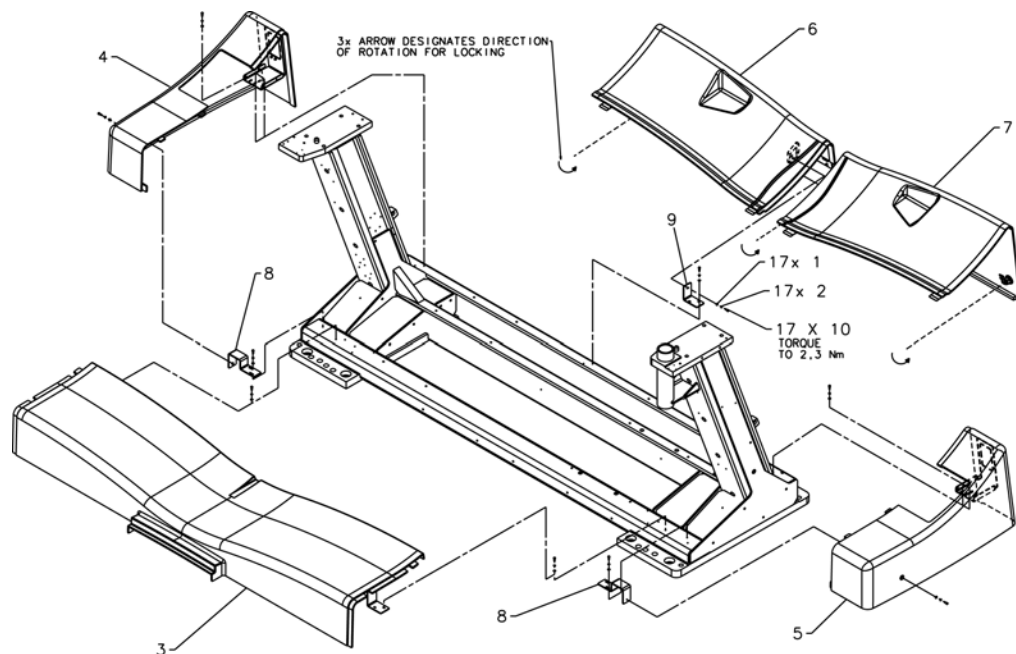

Figure 4-11 Gantry Base Covers Installed
- 1.) Figure 4-11 shows the gantry base covers. There are two side covers, two rear covers and a single front cover.
- 2.) Start with the rear covers (Shown as items 6 and 7). Using an 8 mm hex wrench twist the 3 twist locks counter-clockwise to release the locks and pull each cover out from the back of the gantry.
- 3.) Remove the side covers (shown as items 4 and 5) if needed by removing the one screw on the side (3 mm hex wrench) and 2 screws the interface panel on the back side of the gantry, then slide the side cover away from the gantry to the side.